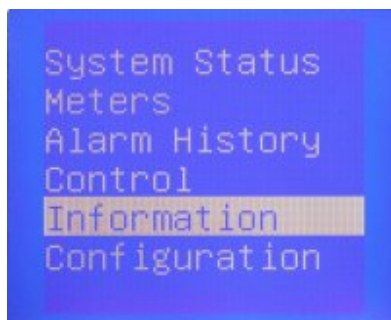

Figure 6. LCD display
- LCD display. The PDU provides information about the load status, events, measurements, identification, and settings through the front panel display, shown in Figure 6.